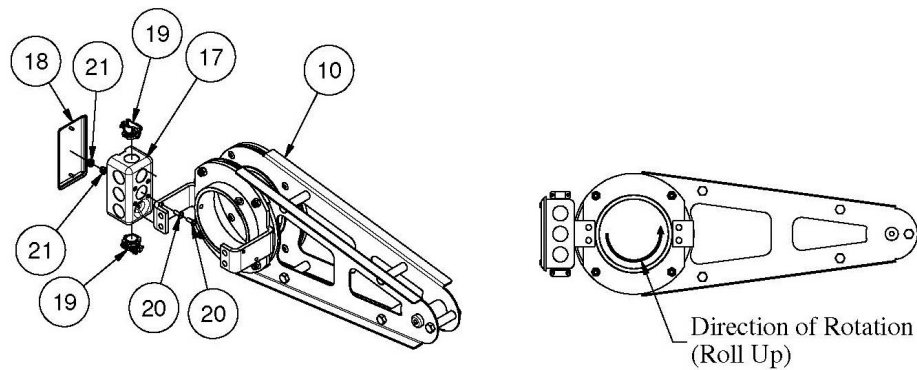

Figure 3
1. Pre-assemble the anti-torque arm on the floor before installing on the aluminum drive tube. Refer to Figure 3.
2. Determine the direction of rotation by looking at the end of the aluminum drive tube and the direction of the vinyl strip that were clamped in Step 4. Install the junction box (item 17) onto the side of the anti-torque arm (item 10) as shown in figure 3. Secure the junction box to the torque arm using two #10 x 1/2” screws and #10 nylon lock nuts.
3. Install a Romex connector (item 19) on the top and bottom openings of the junction box.